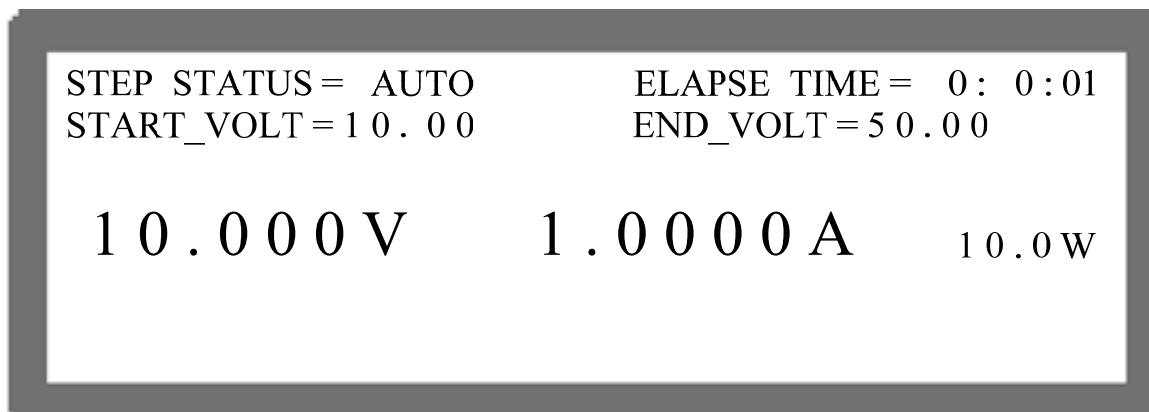

Figure 4-23
2. Press one more time to confirm the execution. It will skip to MAIN PAGE during execution as Figure 4-23 shows. To quit the execution, press can return to the MAIN PAGE window at standby.